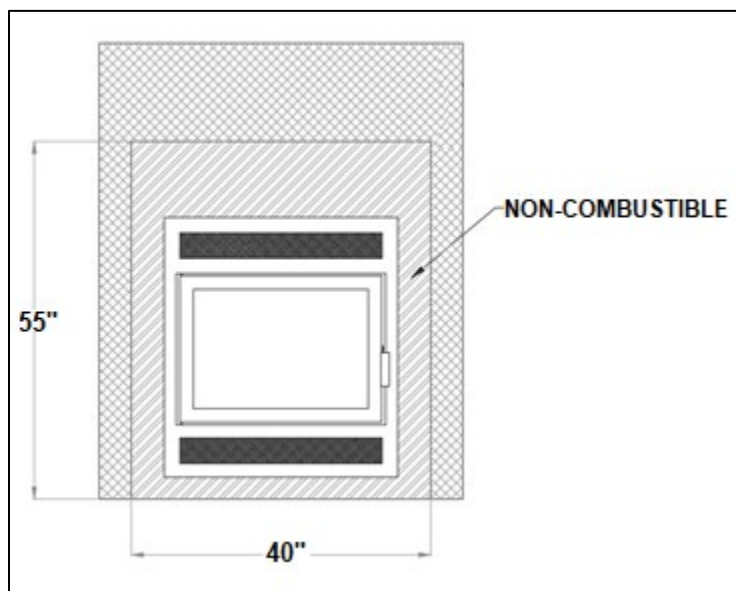

Figure 3-40: Front Chase for Traditional Surround Option
1. Determine the two locations of the air intakes on the chase and cut a rectangular opening 10.5" (W) X 9.5" (H). Note that a distance of 5" is required from the floor.
2. Determine the two locations of the air outtakes on the chase and cut a rectangular opening 10.5" (W) X 9.5" (H). Note that a minimum distance of 64" is required from the floor and a minimum of 6" is required from the ceiling (Figure 3-40). Please note that the air outtake grilles can be installed in the same room or in different rooms from each other. If the grilles are installed at different heights, more heat will be distributed to the highest one.